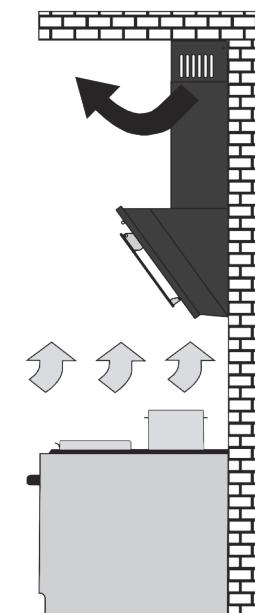

Fig. 2
- recirculation (closed-loop kitchen air circulation) (Fig. 2).